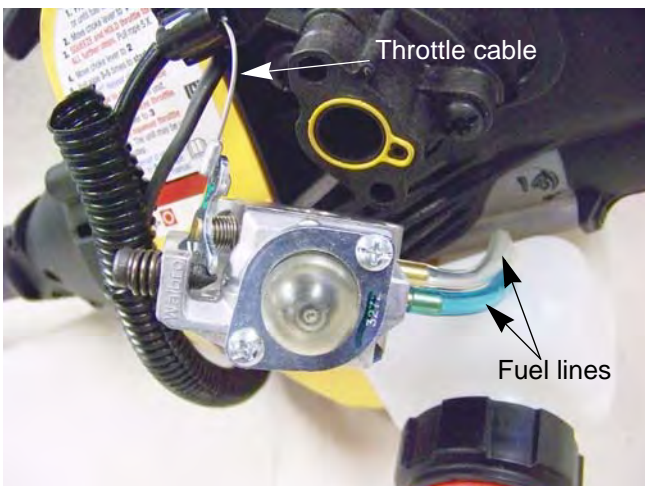

Figure 5.12
4. Disconnect the fuel lines. See Figure 5.12.